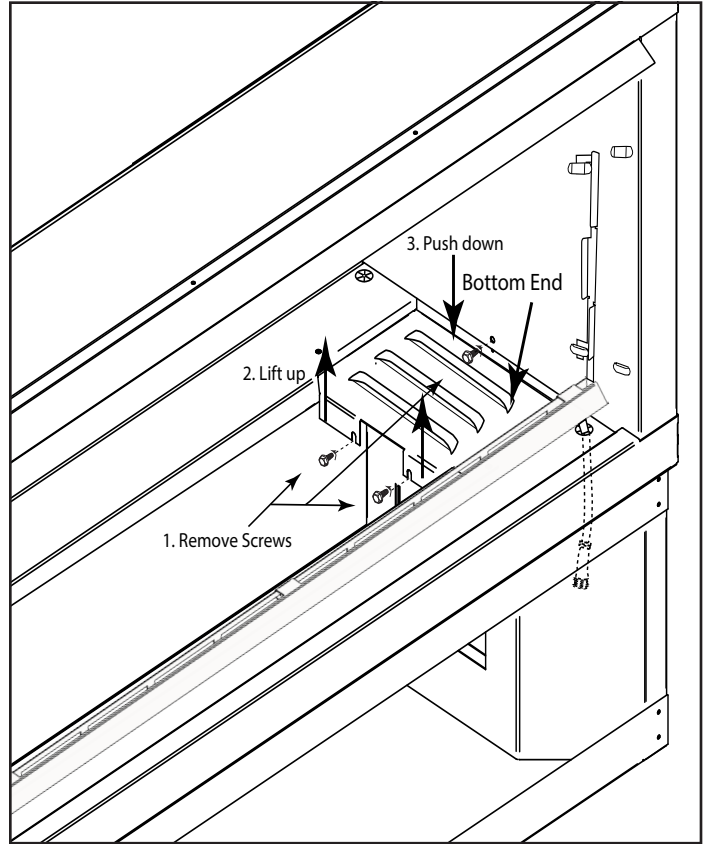

Fig. 22 Removing bottom end
Step 7: If needed, remove the screws from the “bottom end” of the burner pan area to provide additional room for wiring the LED lights. The “bottom end” fills the space between the burner pan and the fireplace side panel. It is held into place with three (3) screws. See Fig. 22. First remove the two inside screws, then the screw securing the side wall. Lift up the area where the two screws were and push down where the single screw was, then lift the bottom end out of the fireplace.